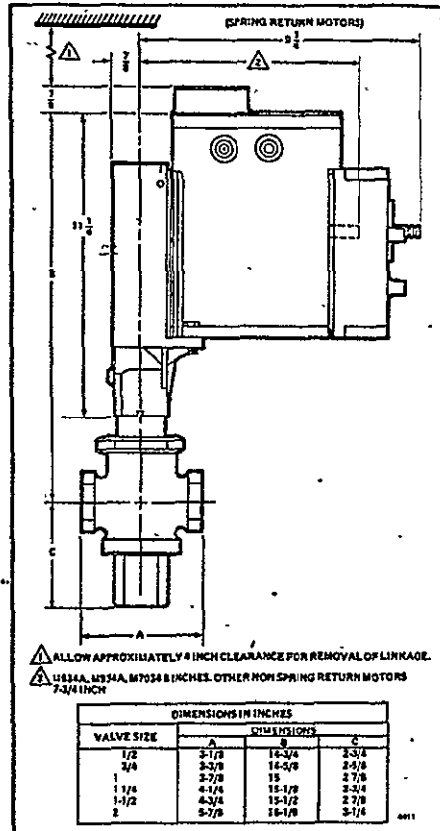

Fig. 1—Mounting dimensions V5013A with Q618 Linkage.
1. Make sure sufficient space has been provided for the complete valve assembly. The valve linkage and motor fit over the valve stem and require about 4 inches clearance for installation and service of motor and linkage. For installation dimensions, see Fig. 1 and 2.